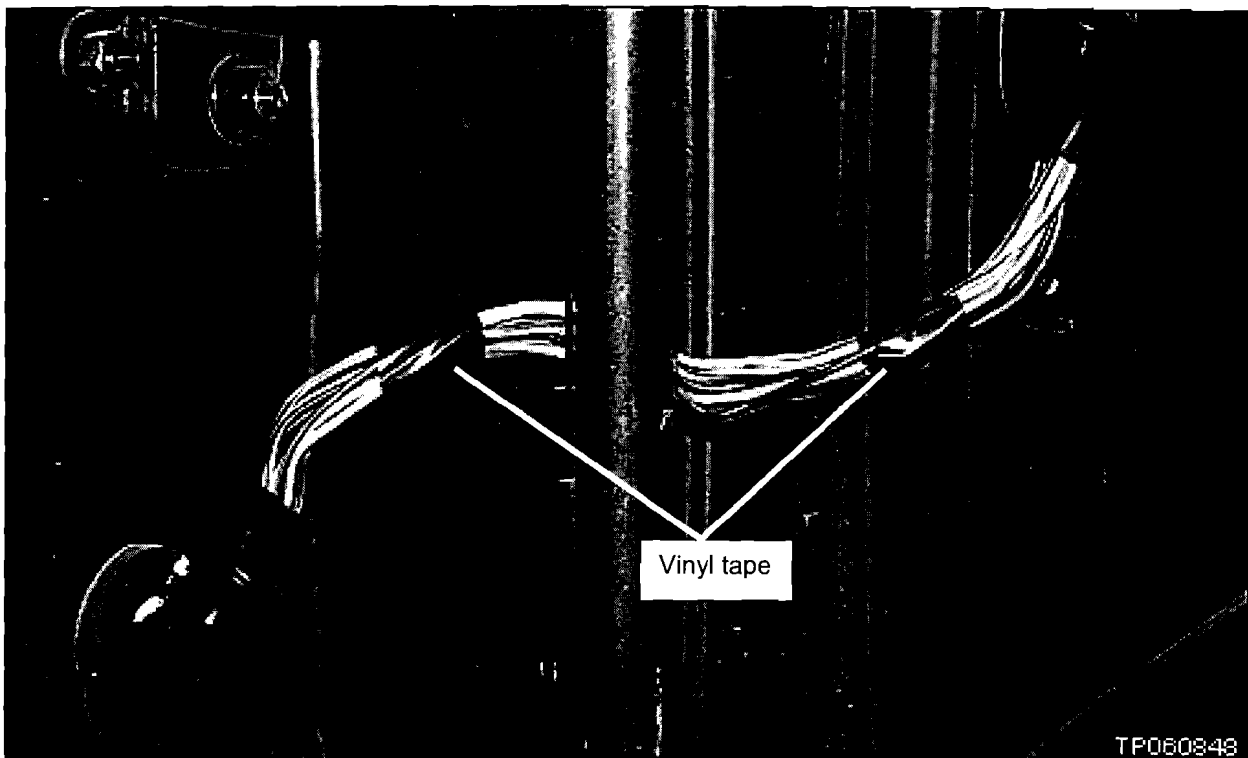

Figure B4
8. Once the vinyl tube is cut off, put vinyl tape on the harness in two spots as shown in Figure B4.